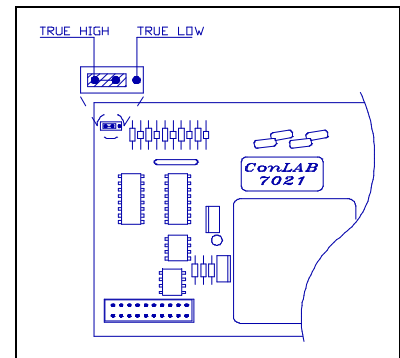

Figure 6
9.3 Address polarity (see fig 6)